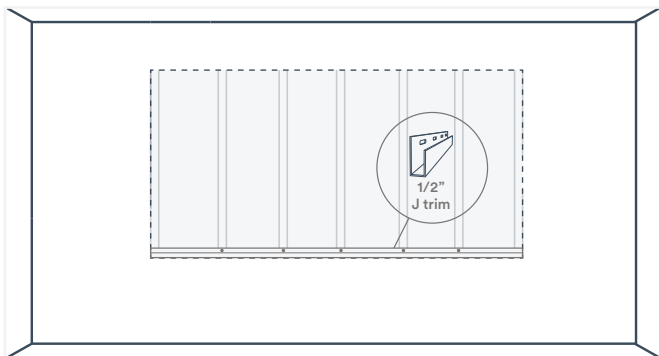
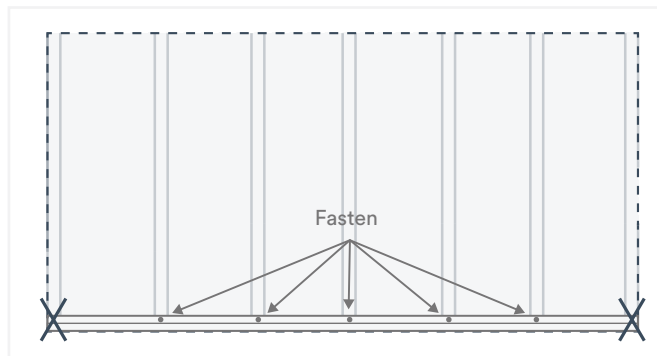

Fig. 26
Fig. 27
6. Install the horizontal 1/2" J Trim to the wall. Align the bottom of the J Trim with the horizontal height mark you made in Step 3 (Fig. 26), then fasten it to each middle stud through the screw flange built into the J Trim. Screws should be driven through the trim's screw flange into the studs you marked in Steps 2-5 (Fig. 27).